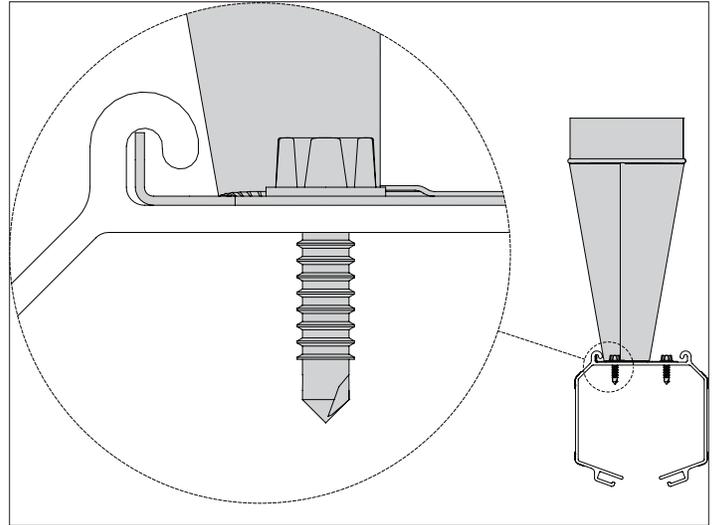

Fig. 4.7.5 Mounting the connection socket in the grid of the rail.
- The duct connection socket has to be mounted in the rib on top of the rail. Refer to fig. 4.7.5.